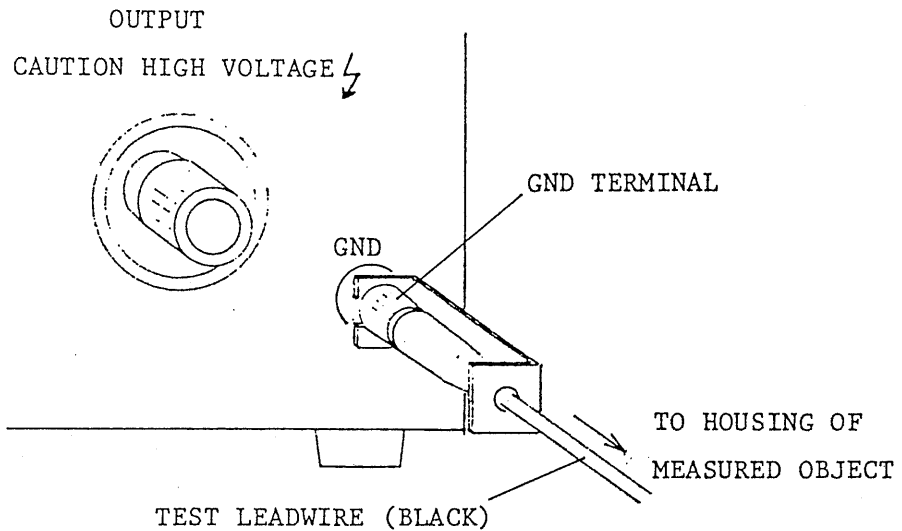

Figure 3.1
- (1) Be sure to connect securely the GND terminal to a good grounding earth line. If grounding is imperfect, the instrument casing can be charged to the high voltage of the instrument when the output is shorted to the ground line or power line and hazards can be caused to the operator when he touches the instrument.
- (2) The connection method of the test leadwire of the GND side is shown in Figure 3.1. Be sure to check for that this leadwire is not open, each time the instrument is used. Also be sure to connect the GND terminal to the ground line of the measured object. If it is not securely connected, the measured object becomes a floated state and a dangerously high voltage may be built up in the measured object.